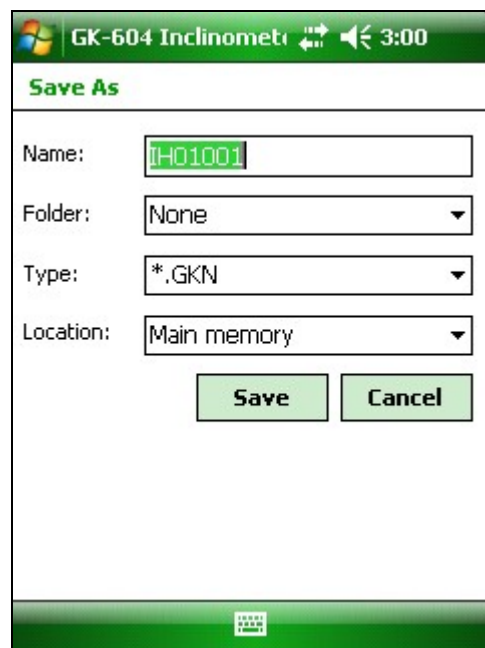

Figure 10 - File Save As Screen
- If you select **No** (to the auto incrementing option) you will be shown the standard **File Save As** screen and you can modify the file name to anything you choose. Use the stylus to click on the keyboard icon (bottom) and make the changes you desire (see figure 10).